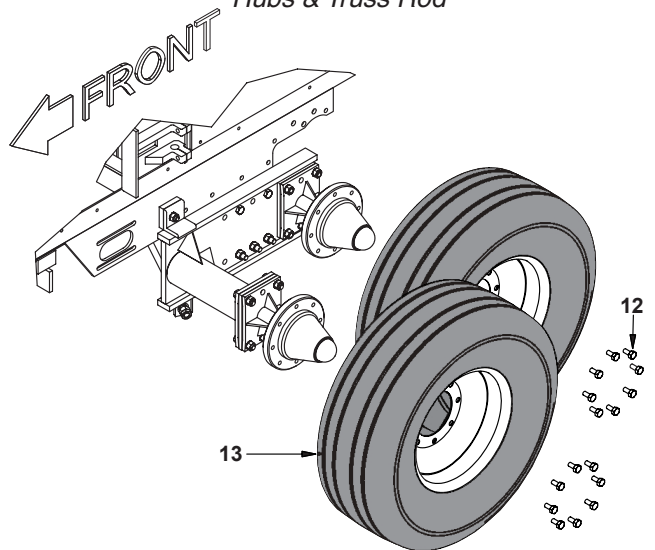

Figure 2-3-5 - Mounting Tires
D. Mount the tires with the valve stem pointing to the inside of the baler (see Figure 2-3-5). Torque lug bolts as per torque chart on page 2-3-1.